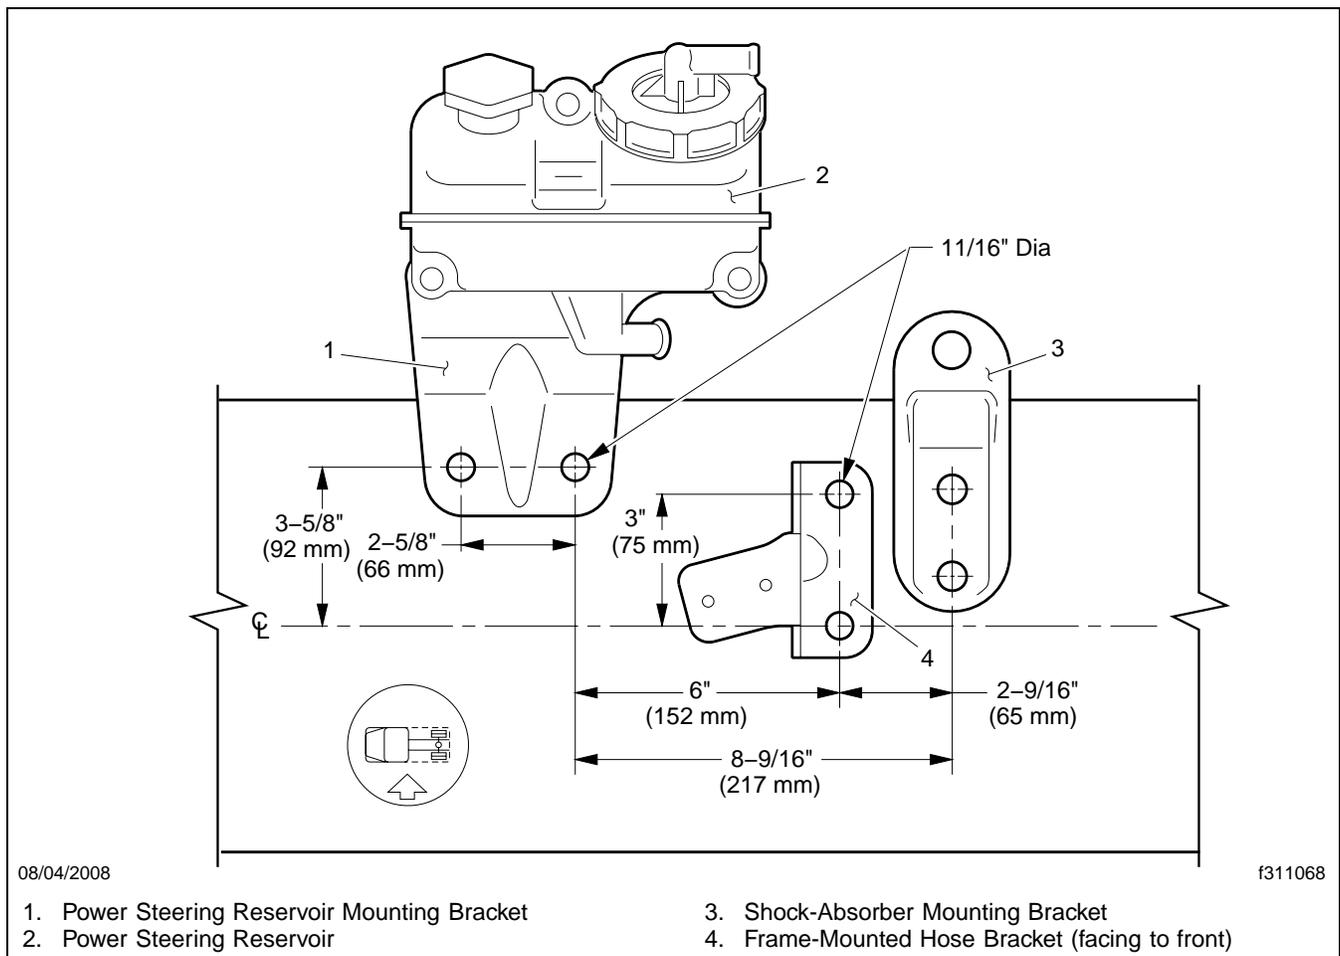

Fig. 1, Drilling and Mounting Locations
12. Mark the layout of the holes on the frame, using the drilling diagram. See **Fig. 1**.
24. Install the frame-mounted hose bracket, as shown in **Fig. 1**.